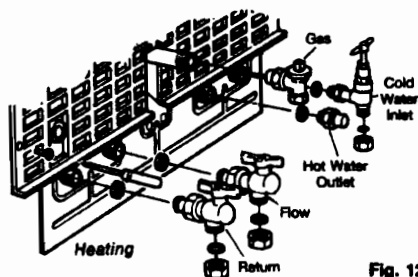

Fig. 12
5.3.4 Loosely fit (hand tight) the valves and fittings using the washers supplied (Fig 12)
5.6.1 Figs 12 and 16 show the locations of the fittings.